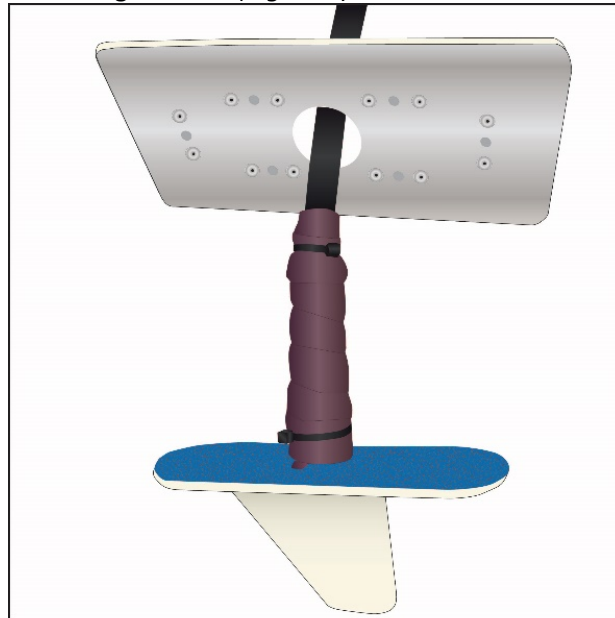

Figure 1
- 4) Disconnect aircraft coax cable and peel antenna gasket from antenna/fuselage. Use isopropyl alcohol to remove any remaining residue. (Figure 1)